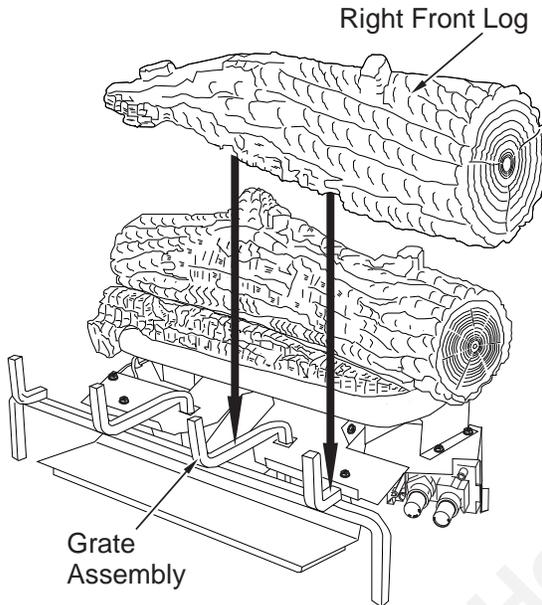

Figure 35 - Installing Right Front Log
- Place the right front log onto the base and grate assembly as shown in **Figure 35**. The log has notches in the bottom for the grate.